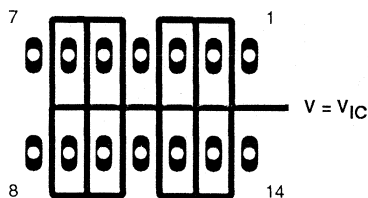
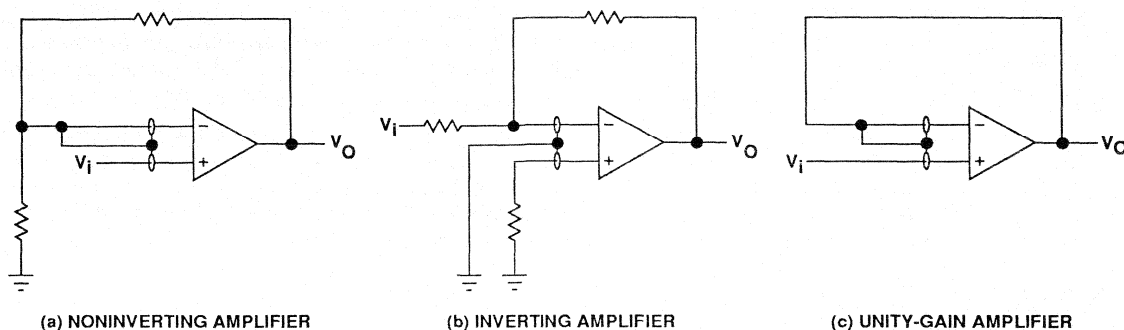

Figure 33. Isolation Metal Around Device Inputs
Figure 37. Guard Ring Schemes
1. Isolate the device from other potential leakage sources. Use a grounded shield around and between the device inputs (see Figure 33). Leakages that would otherwise flow to the inputs will be shunted away.
Because of the extremely high input impedance and resulting low-bias current requirements, the TLV2344 is well suited for low-level signal processing; however, leakage currents on printed circuit boards and sockets can easily exceed bias-current requirements and cause a degradation in device performance. It is good practice to include guard rings around inputs (similar to those of Figure 33 in the Parameter Measurement Information section). These guards should be driven from a low-impedance source at the same voltage level as the common-mode input (see Figure 37).